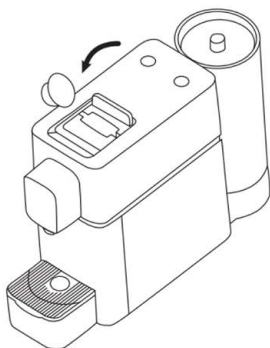

fig. 5
- 2 Insert the capsule into the capsule window, (1 cycle, 1 capsule). (fig. 5)